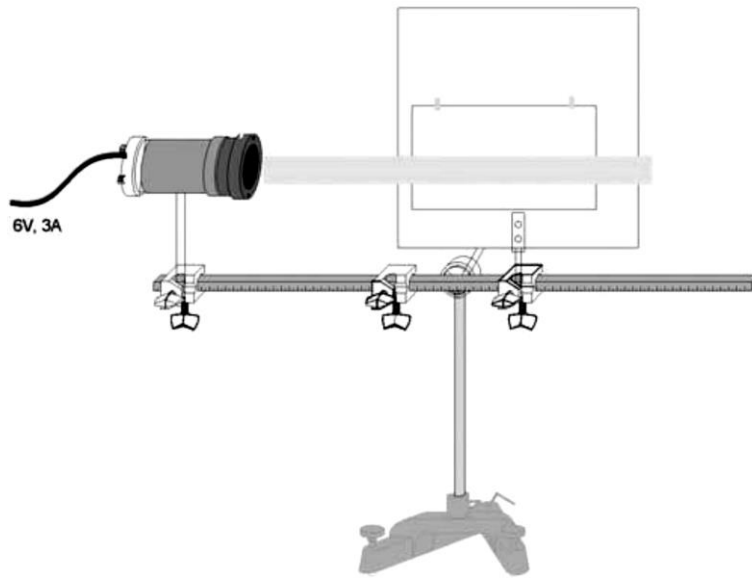

Figure 514.5. Initial experimental setup
1. Install the lamp with the aspheric condenser and the semi-transparent screen on the optical bench (with the screen parallel to the bench as shown in Fig. 514.5). The lens is not needed yet.